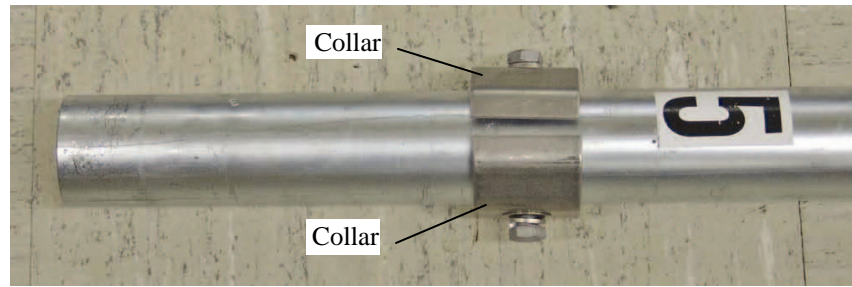

FIGURE 2.2-13. Mast Section 5
Step 12: Remove collars from Section 5 (see Figure 2.2-13).